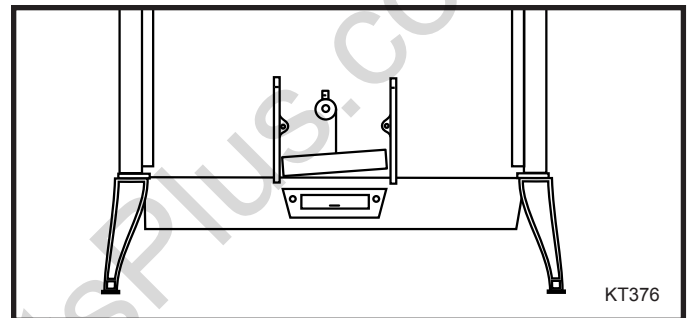

Fig. 5 Rear view of stove.
13. Install the new combustion throat hood (Fig. 5, item 10). Slide a protruding pin on one end fully onto the corresponding support bracket on the upper fireback, then slide the pin in on the trailing end of the hood onto the other support bracket. Center the hood left-to-right on the fireback, and let its lower edge hang against the lower fireback.
15. Attach the slender steel rod to the tab at the end of the bimetal coil, part of the new secondary probe assembly. Carefully press the secondary probe into place through the hole you made in the refractory chamber. Do not jam the probe into place, as this can break pieces off the refractory chamber. Secure the probe with the phillips pan-head bolt you removed in disassembly step 15. The right positioning for the probe is shown in Figure 5. Note that the tab on the end of the coil is in the 4 o'clock to 5 o'clock position, when the stove is cold.